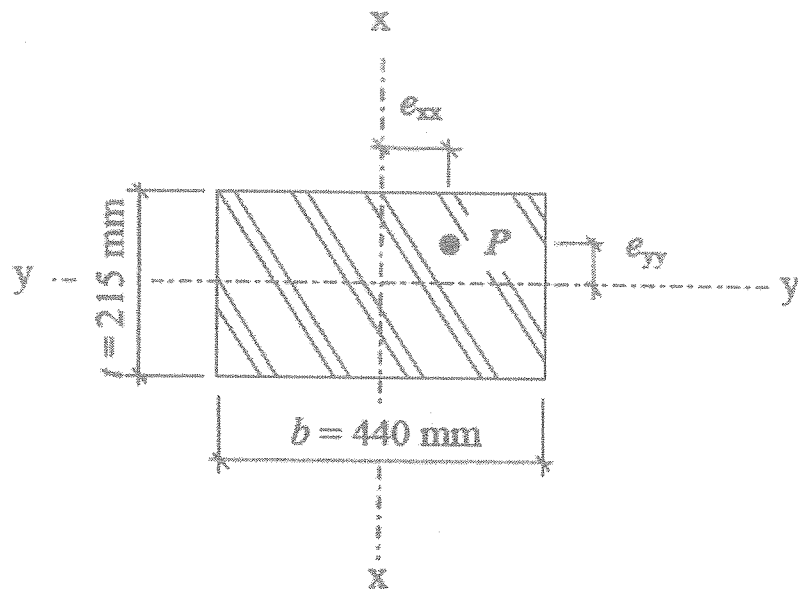

Figure Q3: Cross Section of the Masonry Column
- d) A masonry column, having an effective height of 2500mm in y-y axis and 5000mm in x-x axis is subjected to an eccentric load ($e_{xx} = 20\text{mm}$, $e_{yy} = 25\text{mm}$) of P as shown in the Figure Q3. The designation of mortar is type II and the characteristic strength of standard format brick is 35.0 N/mm². Assuming that the category of manufacturing control as "Special" and category of construction control as "Normal" determine the maximum value of the load P.